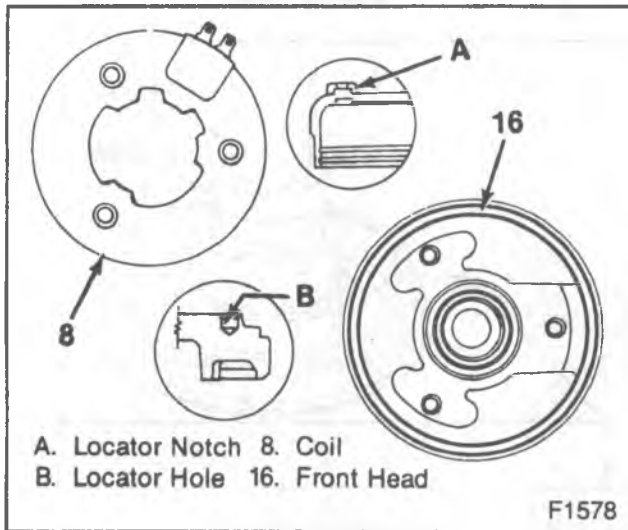

Figure 11—Adhesive Fill Guide
Install or Connect (Figures 11 and 12)
1. Adhesive to the clutch coil (8) (figure 11).